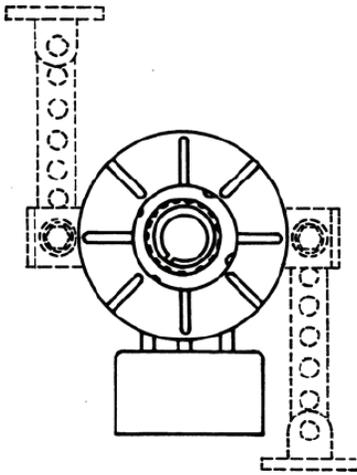

Figure 4
- D. Secure field anti-rotation arm to tab on field and rotor assembly. Secure other end of anti-rotation arm to solid base as shown in Figure 4.